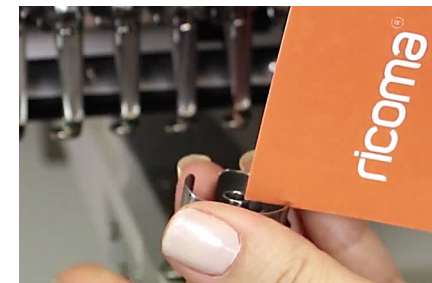

Figure 108
- Clean the lint from the slit on the bobbin case with the corner of a business card or remove it with the bobbin thread itself like dental floss. Resist the temptation to blow the lint off, which can deposit damaging saliva onto your bobbin case. **See Figure 108.**